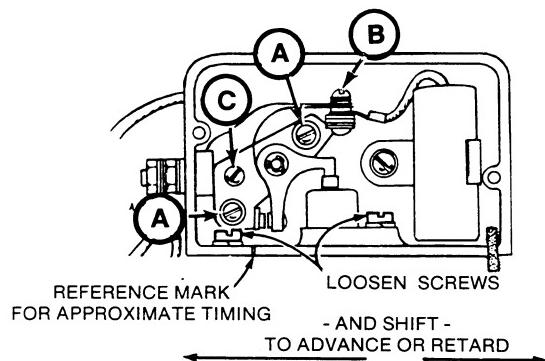

FIGURE 8. SETTING POINT GAP
3. Remove two mounting screws (A) and pull point set out of box just far enough so screw (B) can be removed. See Figure 8. Replace points and condenser set. Do not completely tighten mounting screws (A).
4. Adjust point gap by rotating crankshaft clockwise (facing flywheel) by hand until the points are fully open. Set the point gap (using flat feeler gauge) at 0.020 inch (0.51 mm) by adjusting screw (C).
5. Tighten mounting screws (A) and recheck point gap. Place one drop of oil on breaker point pivot.